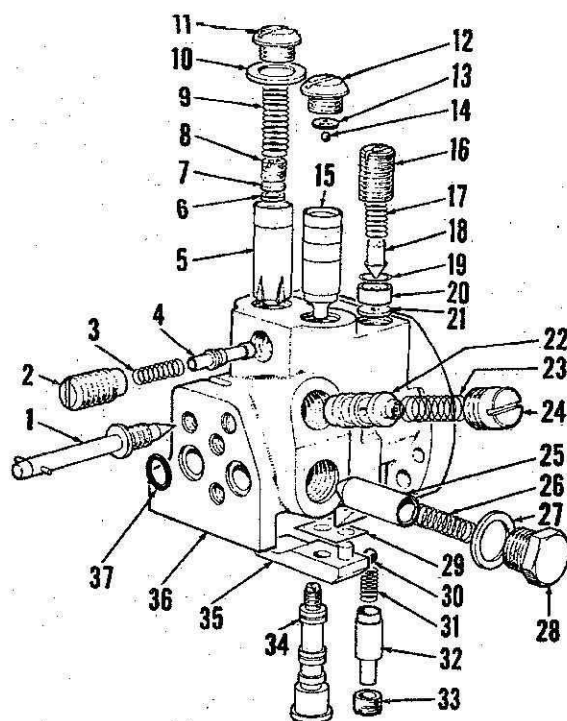

Fig. 198—Exploded view of Selectamatic control valve assembly.
255. With control valve assembly removed as outlined in paragraph 254, refer to Fig. 198 and proceed as follows: Remove lowering control valve needle (1) and abutment plate (35), taking care not to lose any of the shims (29) located between plate and valve body. Remove the two lock nuts
With all valve parts cleaned in kerosene, air dried and lubricated with clean oil, reassemble as follows: Fit spring (not shown) on lower end of spool valve (34—Fig. 198). Push valve into position against spring and install the flat washer and two lock nuts, finger tight, on upper end of valve.
(D); gage pressure should then be approximately 2500 psi. If hold relief valve pressure is not correct, shims (19—Fig. 198) may be added or removed between retainer (16) and valve seat; removing shims will increase relief pressure. Shims are available in thicknesses of 0.003, 0.007 and 0.015.